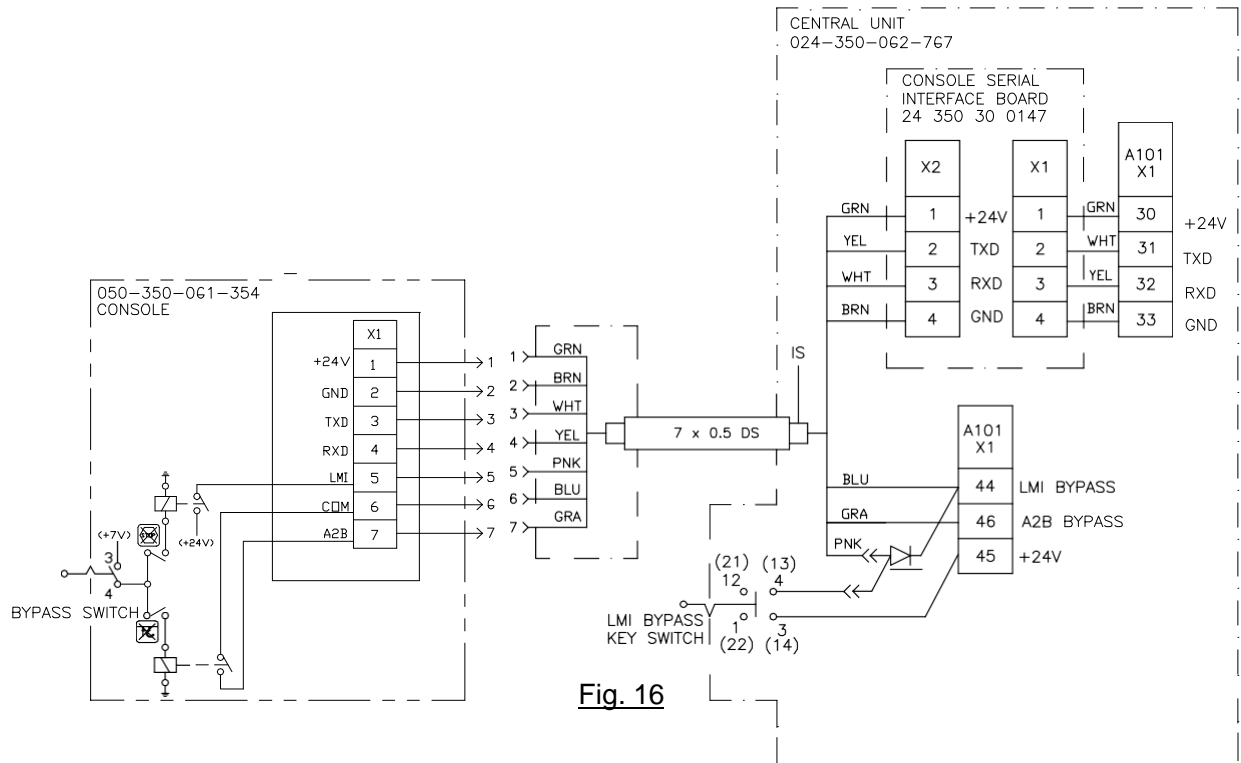

Fig. 16
2. Install 1/8" and 1/4" female terminals on wire ends and attach to connection board and diode ass'y per electrical schematic. (Fig. 16)